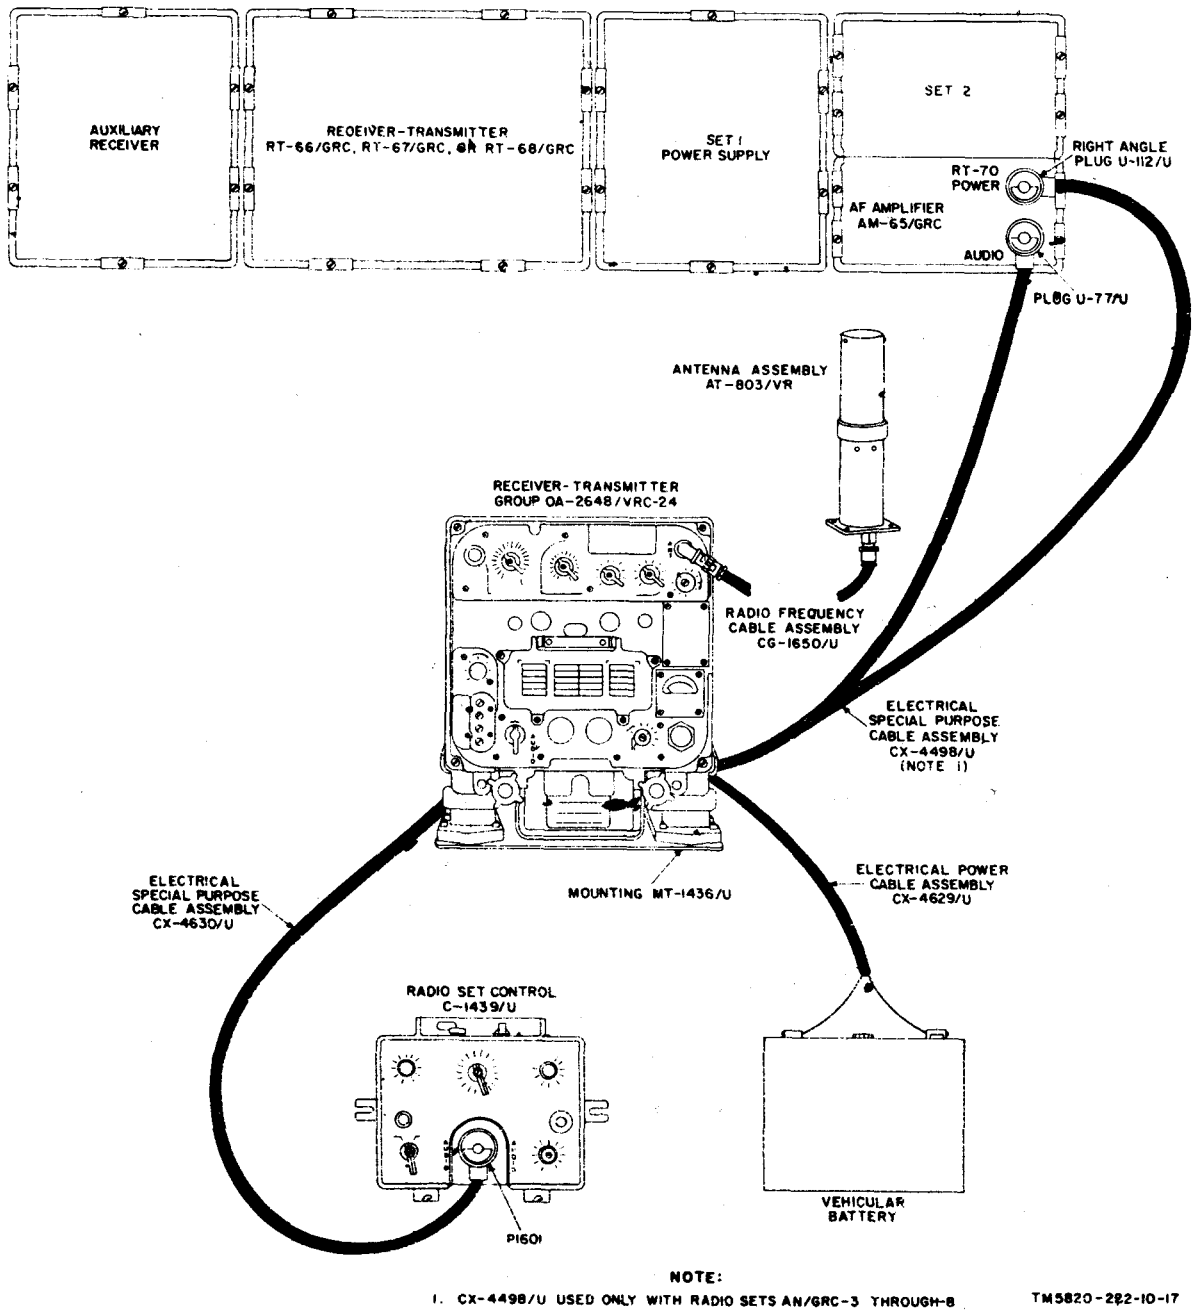

Figure 3. Radio Set AN/VRC-24 as used with Radio Sets AN/GRC-3 through -8, cording diagram.
b. The AN/VRC-24 is used for vehicular ground-to-air communications. It may also be used as a retransmission device for Radio Sets AN/GRC-3 through -8- (TM11-284) when connected as shown in figure 3. Audio output from the AN/VRC-24 receiver, frequency-modulates the transmitter of one of the AN/GRC-3 through -8 series for retransmis-
The AN/VRC-24 includes a receiver-transmitter group, a mounting, a radio set control, an antenna, a loudspeaker, a microphone, and interconnecting cable assemblies. The receiver-transmitter group (fig. 1) is secured to the mounting which is normally bolted to a vehicular mounting surface. The cable assemblies interconnect components of the radio set and connect the radio set to the vehicular battery (fig. 3). The actual location of the components in a vehicle depends upon the vehicle and is limited by the lengths of the cable assemblies.